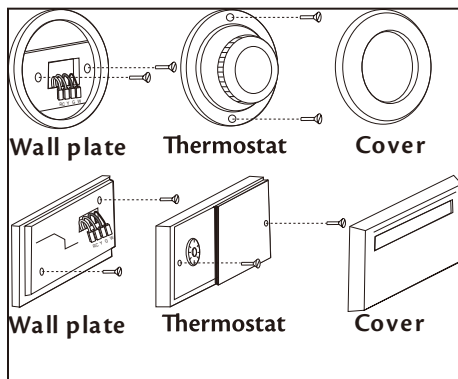

Figure 1.
2. Remove the cover to your existing thermostat. Some thermostats may have screws or other locking devices that must first be removed. Once the wall plate is exposed, locate the wire terminals and try to identify the wire designations. If the wire terminals are not visible, they may be connected to the back of the wall plate. Look for any additional screws, tabs, or locking devices to remove the wall plate. See Figure 1. If you are still unable to find the terminals for the wires, it may be necessary to contact the manufacturer of the original thermostat.